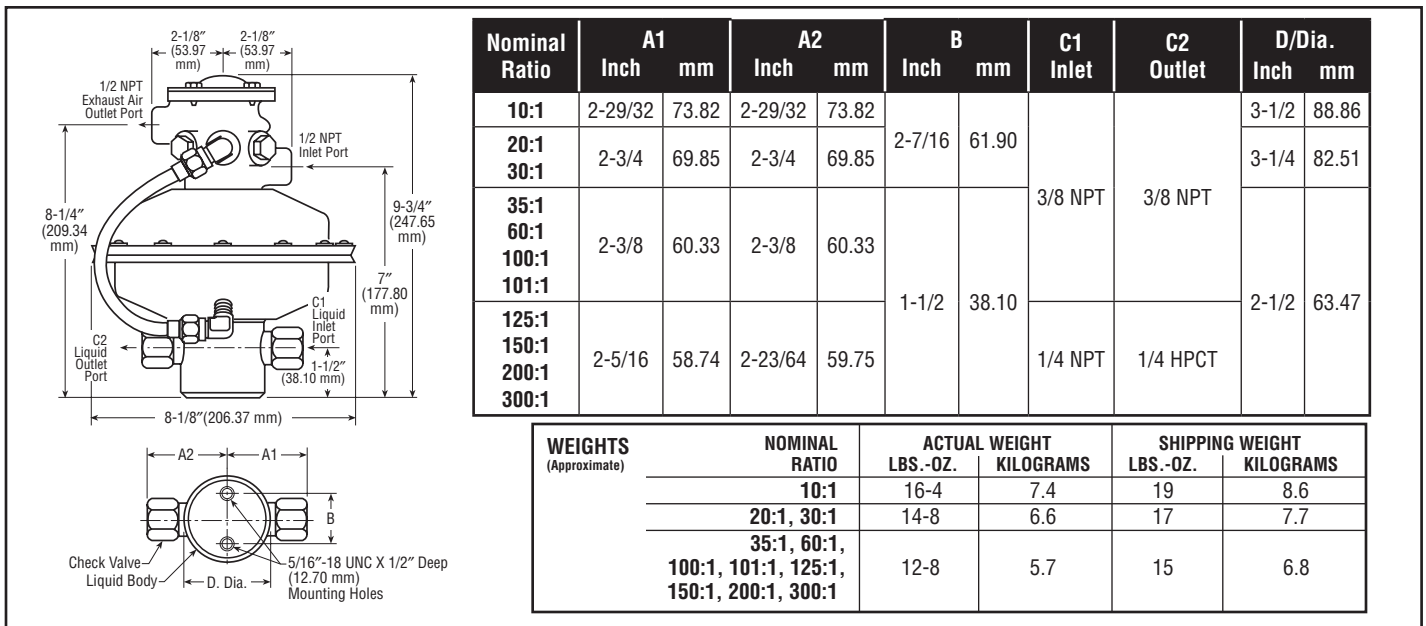

Figure 1-1 Basic pump dimensions and weights
- MOUNTING-Two mounting holes are provided on the underside of the basic model pump's fluid body for attachment to a base plate or platform. See Figure 1-1.